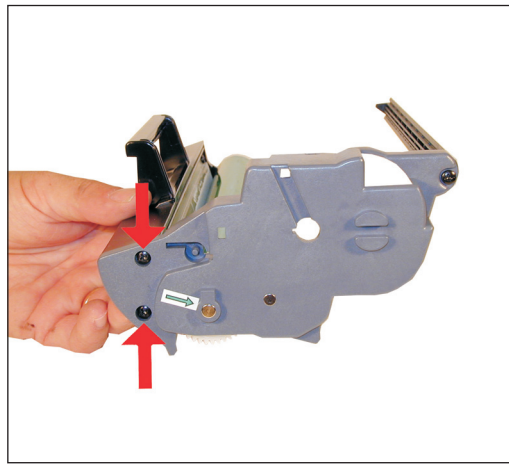

Figure 7
5) Remove the two front screws only from the right end cap. The back screw holds the long brace in place and does not need to be removed. See Figure 7